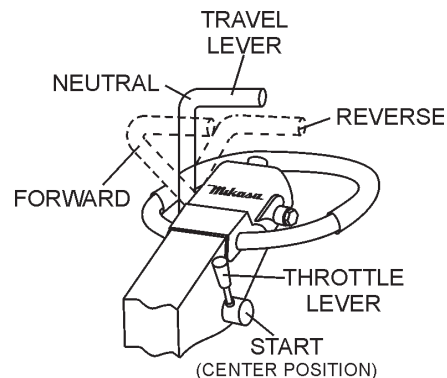

Figure 16. Travel/Throttle Lever (Start Positions)
2. Place the **throttle lever** (Figure 16) in the **START** position (center). Place the **travel lever** in the neutral position (center)
- Move the throttle lever to the **START** position (Figure 16).
- Return the throttle lever to the **START** position (Figure 16). Allow the machine to cool down for 2 to 3minutes.